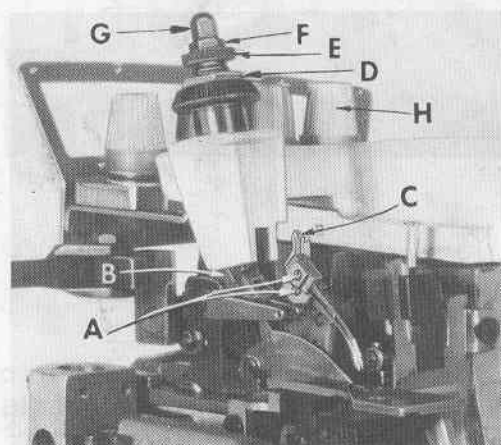
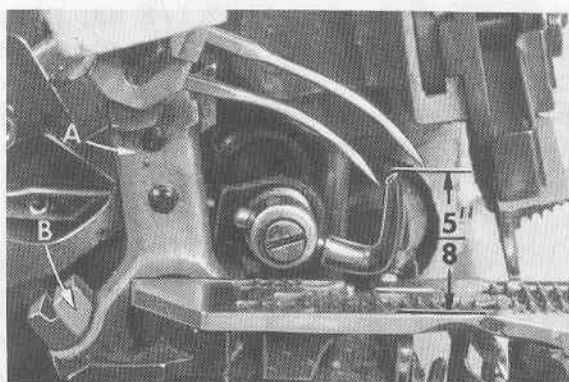

Fig. 2
Fig. 3
Release pressure on presser foot by turning the presser foot release bushing (A, Fig. 1 or 1A) and swinging presser arm (B) out of position. Turn handwheel in operating direction (away from operator) until needle holding screws (A, Fig. 2) are just exposed from behind presser spring plunger (B) and accessible to screwdriver. Loosen screw and withdraw needle. When replacing needles observe the position of the flat which is at the left of the shank and be sure the needle is inserted the full depth to the combination eyelet and stop plate (C).
Sufficient pressure to feed work uniformly should be maintained. Should it be necessary to increase or decrease amount of pressure on presser foot loosen lock nut (D, Fig. 2) and turn the adjusting screw (E). Adjusting screw has a right hand thread so tightening increases the pressure, loosening decreases pressure. When pressure adjusting screw (E) has been properly set, tighten lock nut (D). With presser foot resting on the throat plate, position locking nut (F) so that its under surface is approximately 1/32 inch to 1/16 inch from the top surface of adjusting screw (E). Set the cap (G) against the locking nut (F).
Release the pressure on presser arm and swing arm out of position. Insert both needles (Type 161 GS for the 401 stitch and Type 154 GAS for the overedge stitch) into the left and right holes, respectively, of the needle driving arm (A, Fig. 3), so that the butt ends contact the needle driving arm thread eyelet (C, Fig. 2). Secure needles in this position with clamp screws (A, Fig. 2).
With the throat plate assembled in position, the needles should center in the throat plate needle holes. To align the needles, loosen clamp screw (B, Fig. 3) and reposition the needle driving arm to the right or left as required. The height of the needle driving arm is correct when the point of the left needle is $\frac{5}{8}$ inch above the throat plate (Fig. 3) when at the top of its stroke. Tighten clamp screw (B) after correct height has been obtained and needles have been centered in the throat plate needle holes. Remove throat plate